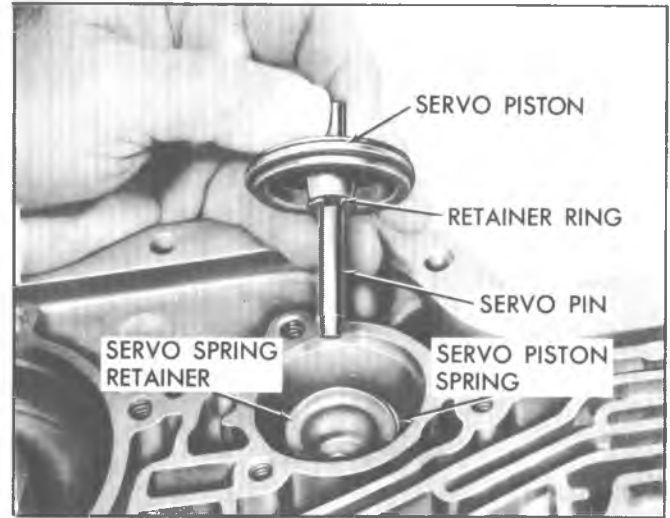

Fig. 7A-20C--Removing Front Servo Piston, Retainer Ring, and Pin
6. Withdraw electrical connector and "O" ring seal (Fig. 7A-19C).
8. Remove six (6) check balls from cored passages in transmission case.